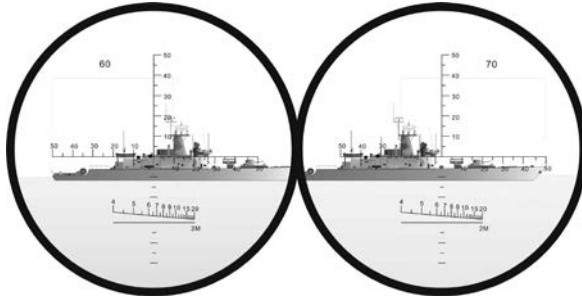

FIGURE 6. MEASURING OF BIG VIEW ANGLE
B. When the Horizontal View Angle is bigger than the horizontal scale range (-50~+50 mils), a vertical line splits(for example: mast, chimney etc.) on the object can be selected to make the necessary estimated measurements in a step by step fashion. The sum of the value from each step is used to obtain the measured value. As shown in Figure 6, the azimuth of target (cruiser) is 130 mils (60+70=130).